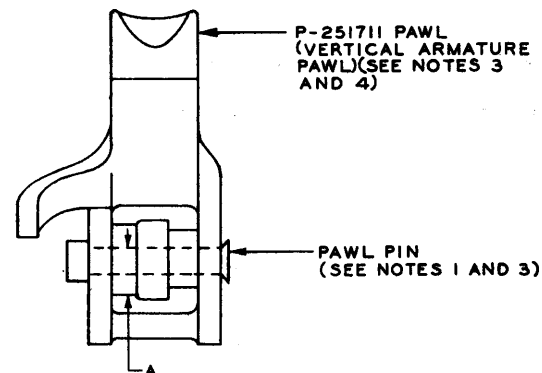
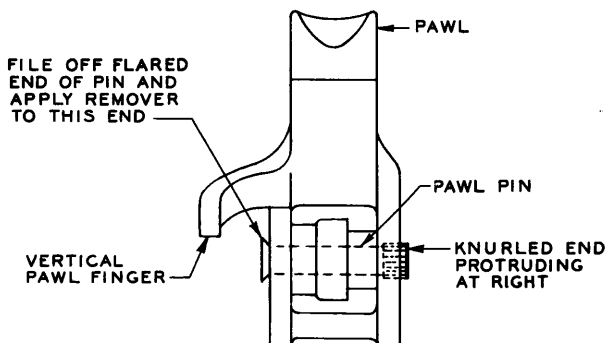

Fig. 1 - Vertical Pawl and Pawl Pin
Fig. 9 – Vertical Pawl with Headless-Type Pawl Pin Having Knurl Protruding at Right of Pawl
Notes for Fig. 1 and 2
3.09 Removing Vertical Pawl Pin per Fig. 9 and 10: Remove both loose and tight pawl pins as covered in 3.07(2).
- (1) If a headless-type vertical pawl pin with a protruding knurl (Fig. 9) is being replaced, make sure that the P-252536 pawl pin (Note 1 for Fig. 1 and 2) is used as the replacement.
- (2) If other than the headless-type pawl pin covered in (1) is being replaced, determine the proper replacement pin as follows. Attempt to insert the 0.093-inch end of the 130A gauge into the mounting holes of the pawl and the bearing of the armature. If the gauge does not enter the armature and pawl, use the P-252534 (0.090-inch diameter) pawl pin. (See note 1 for Fig. 1 and 2.) If the gauge enters but is snug, use the P-252535 (0.094-inch diameter) pawl pin, and if the gauge is loose, use the P-252536 (0.105-inch diameter) pawl pin.
3.11 Mounting Vertical Pawl Pin: To mount the vertical pawl pin proceed as covered in (1) if the vertical armature assembly was removed from the switch or as covered in (2) if the armature assembly was not removed.